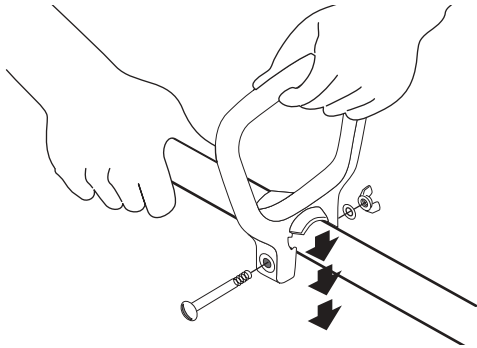

Fig. 1
2. Place D-handle over the shaft housing and push it on the boom (Fig. 1).